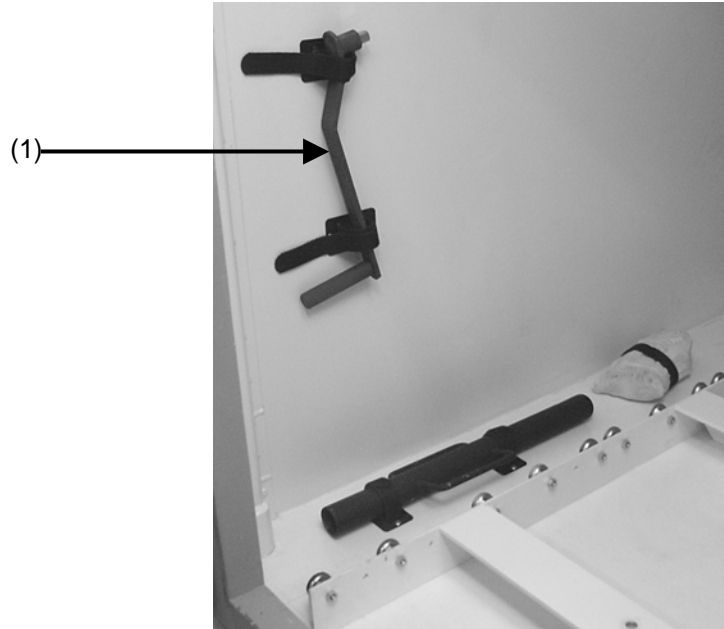

Figure 2-12. Inside view of mechanical room.
a. Obtain jack handle (1) stored on inside wall of mechanical room (Fig. 2-12).